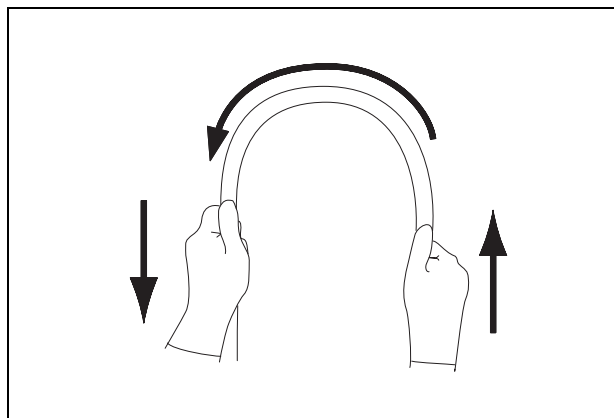

Figure 3.3
5. Using both hands, bend the insertion tube of the endoscope into a semicircle. Then, moving your hands as shown by the arrows in Figure 3.3, confirm that the entire insertion tube can be smoothly bent to form a semicircle and that the insertion tube is pliable. When inspecting endoscopes with flexibility adjustment, perform the test with the insertion section at both its most flexible and most rigid settings (for endoscopes with flexibility adjustment only).